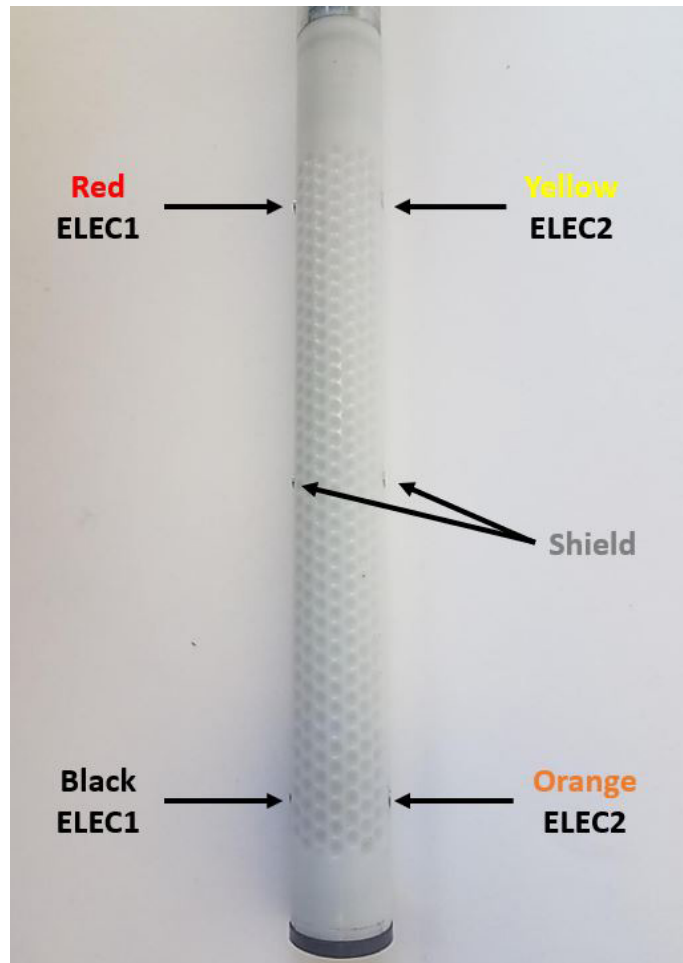

Figure 1: Sensor Electrode Locations
8. With the Coil, ELEC1, and ELEC2 terminal blocks still unplugged, perform the sensor circuitry tests below. Refer to Table 2 and Figure 1 for guidance and record the measured values.